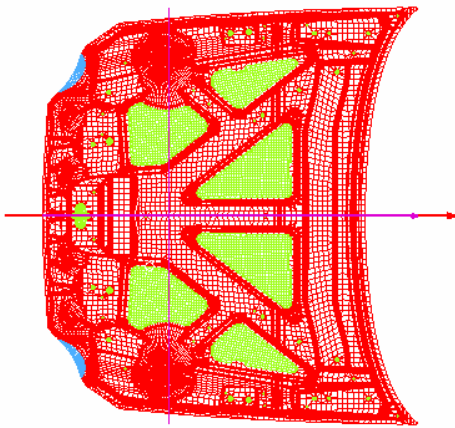

Figure 28 Define binder orientation
4. Click **Define Binder Orientation** following by pressing the middle mouse button. The binder orientation has been defined, as illustrated in Figure 28.